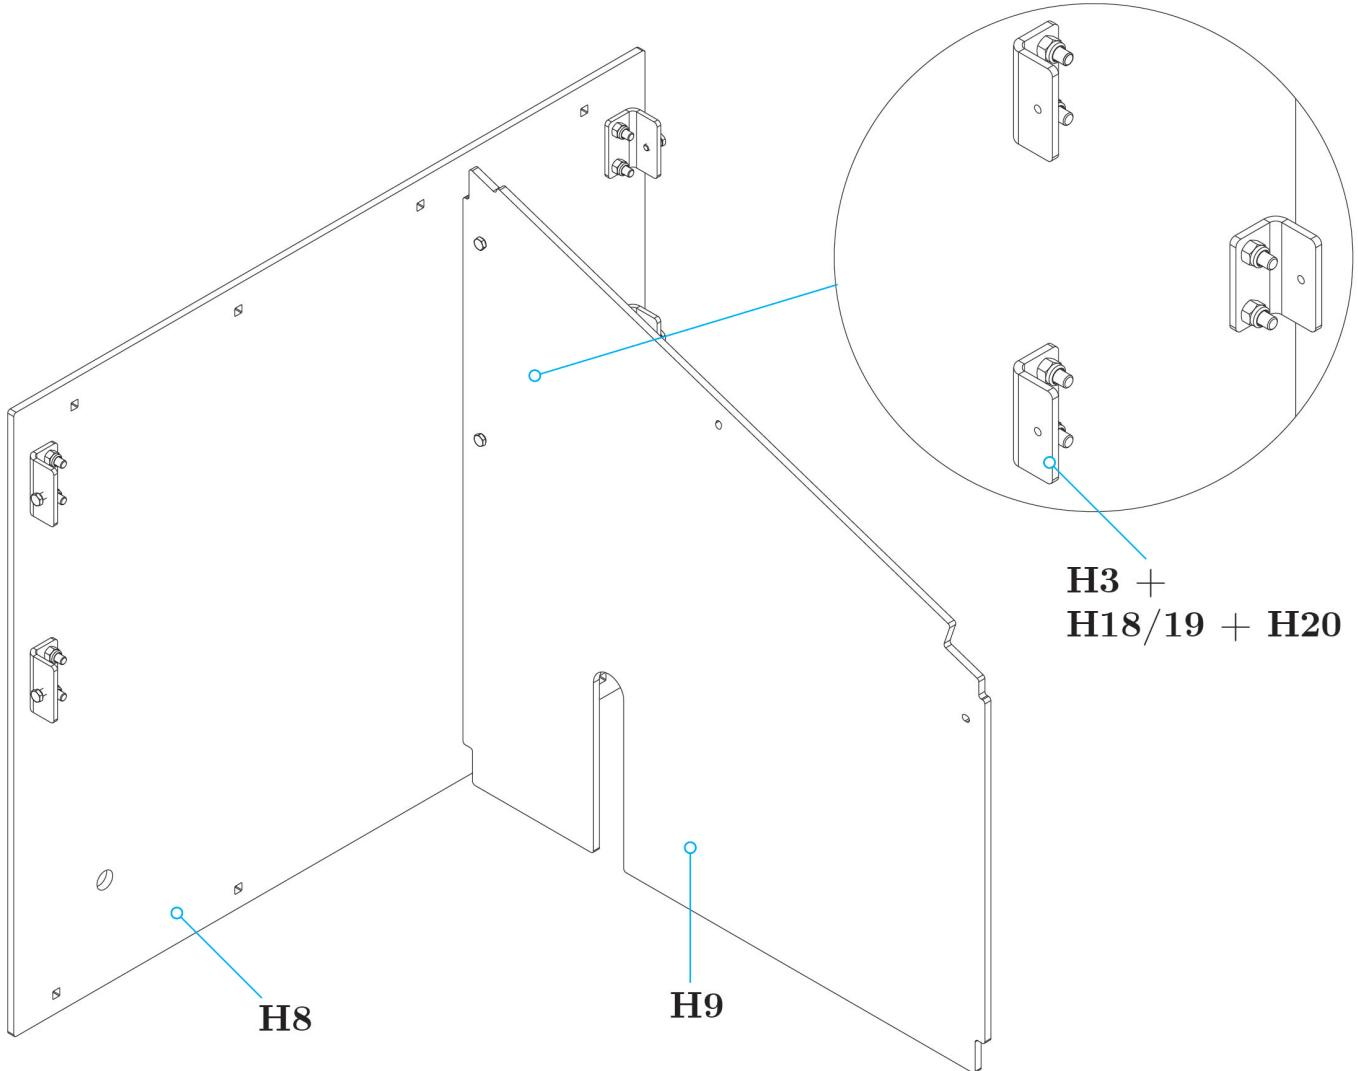

Figure 13: Overview of the Back Plate Assembly
1. Orientate the H8 Back Plate as illustrated in figure 13.
2. Position the 3x H3 Connectors onto the plate. Make sure their orientation resembles figure 13. Fasten the connectors with 12x H18 carriage bolts and H19 nuts.
3. Position the H9 Internal Wall perpendicular to the Back Plate and fasten it with 2x H20 hex bolts as can be seen in the detailed view of figure 13.